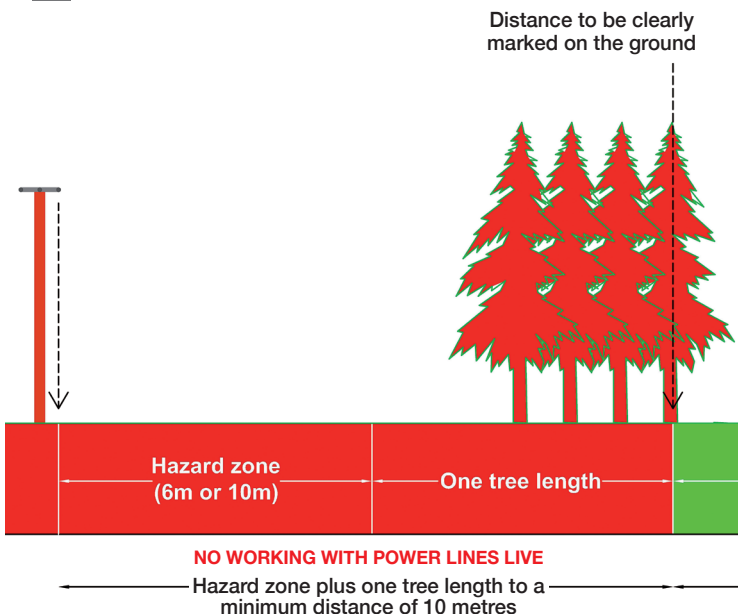

Figure 1:
- 15** Do not operate the forwarder if any part of the machine or its load can come within the hazard zone of energised OELs (see Figure 1). The hazard zone will vary between 6m and 10m depending on line voltages (see Leaflet IFSG 804 (IRL) Electricity at Work: Forestry).